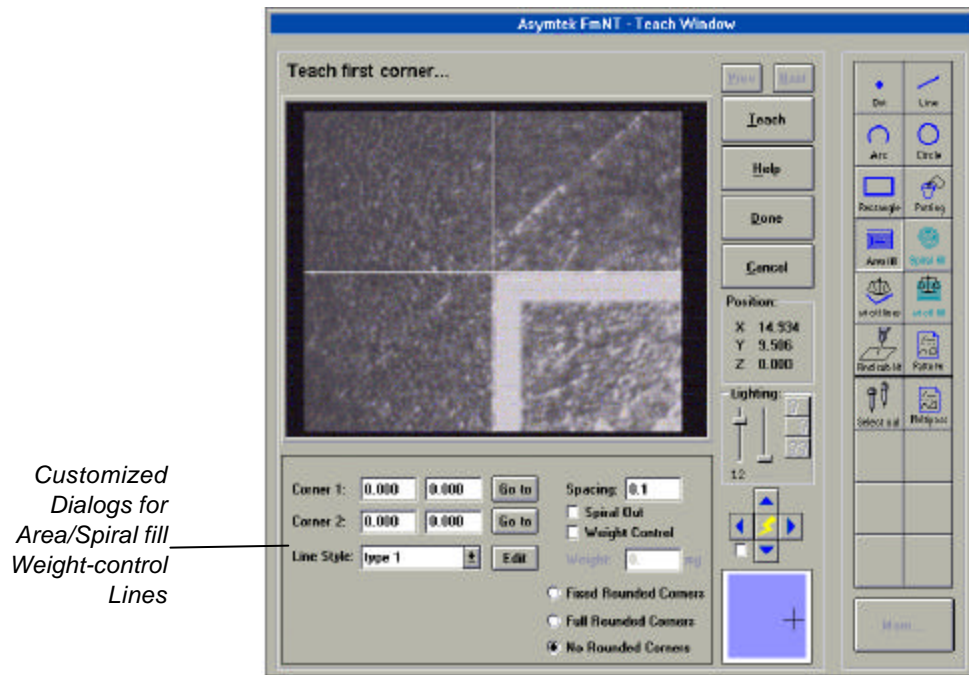

Figure 8-5
4. In the Teach Window as shown in Figure 8-5, type 0.1 in the Spacing text box.